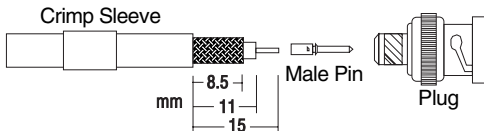

Figure 6: Antenna Connector Assembly
- 2 Terminate the free end of the cable with the BNC crimp plug supplied, as shown in Figure 6:
- Trim the outer sheath from the cable to 15mm (see Figure 6 below).